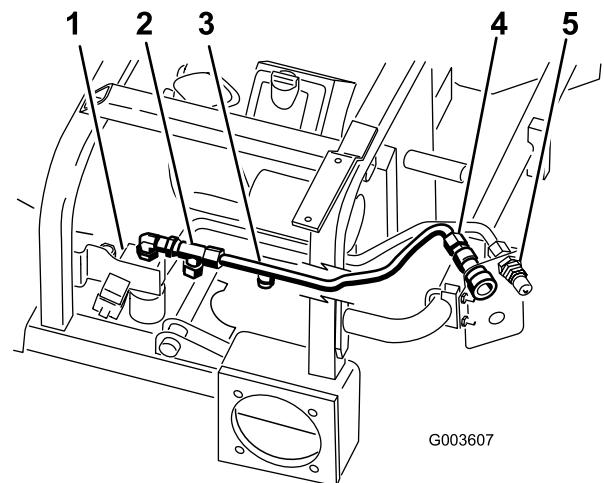

Figure 15
5. Position hydraulic line number 2 into the machine as shown in Figure 15.
6. Install hydraulic line number 2 to the tee fitting assembled to the 90 degree elbow and the top of the valve (Figure 15).
7. Install hydraulic line number 2 to the upper female coupler (Figure 15).